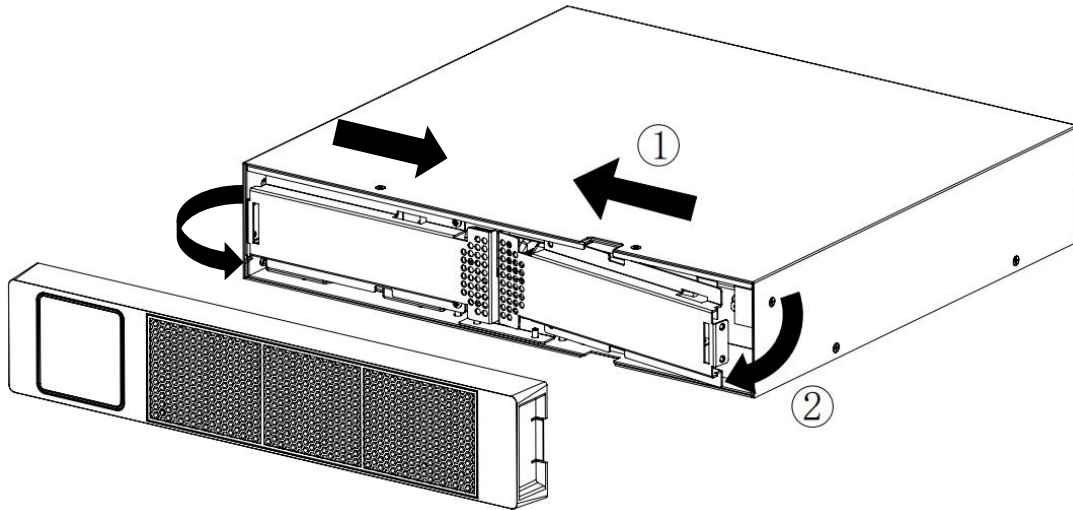

Figure 66: Remove the Faceplate
- 154. Loosen the outer screws on both battery covers, move the battery covers to the center, then pull the outside out (see Figure 66).